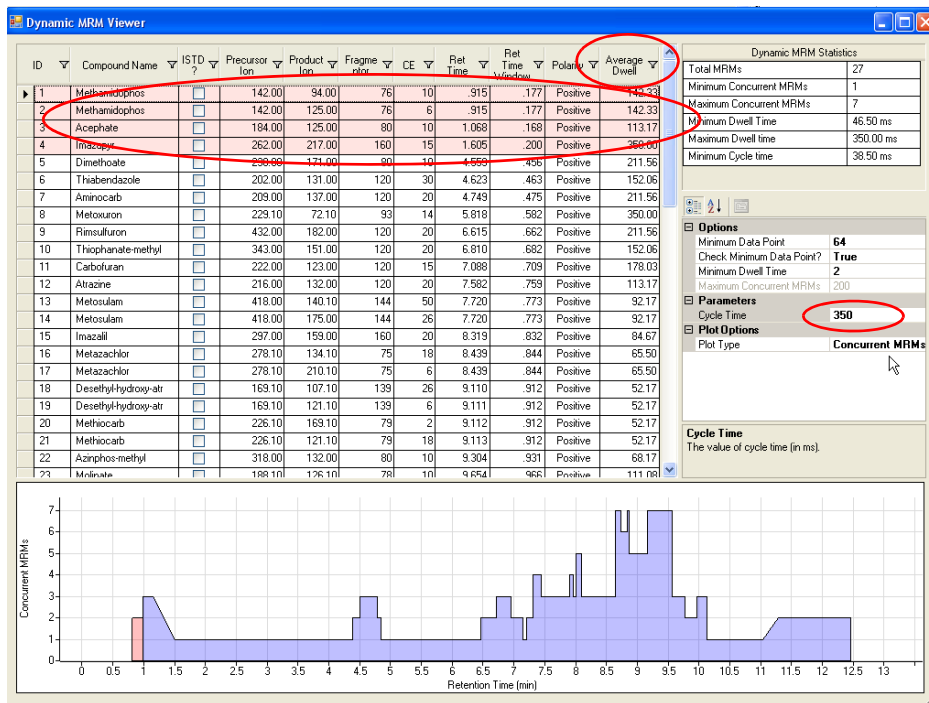

Figure 17 Dynamic MRM Viewer
The Dynamic MRM Viewer appears. It provides a powerful display to show you important details of your method. See Figure 17.
- The transition table in the Dynamic MRM Viewer shows the average dwell time of each transition based on the number of overlapping transitions and the **Cycle Time** that appears under **Parameters**. In Figure 17, the three compounds (4 DMRM transitions) that are highlighted in pink indicate that the MS-MS integrator will not work.